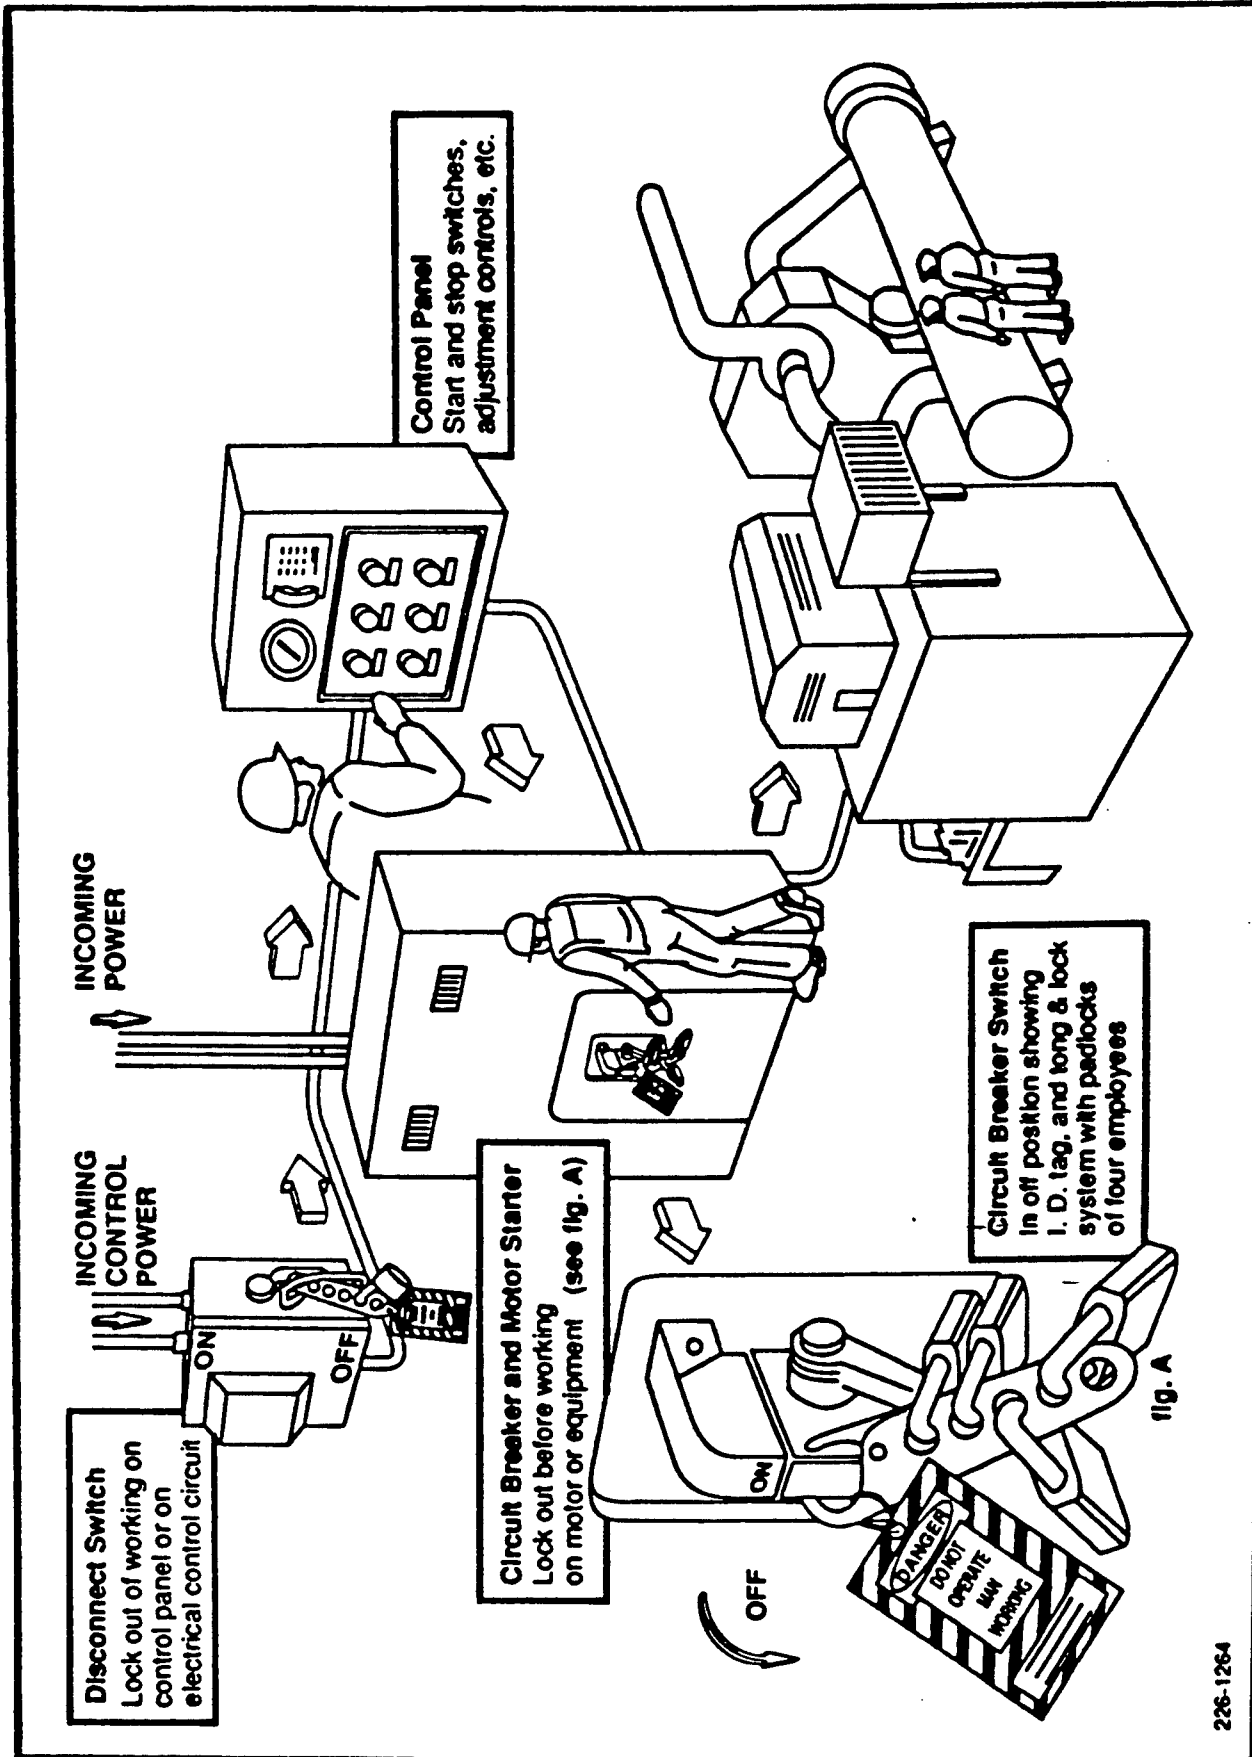
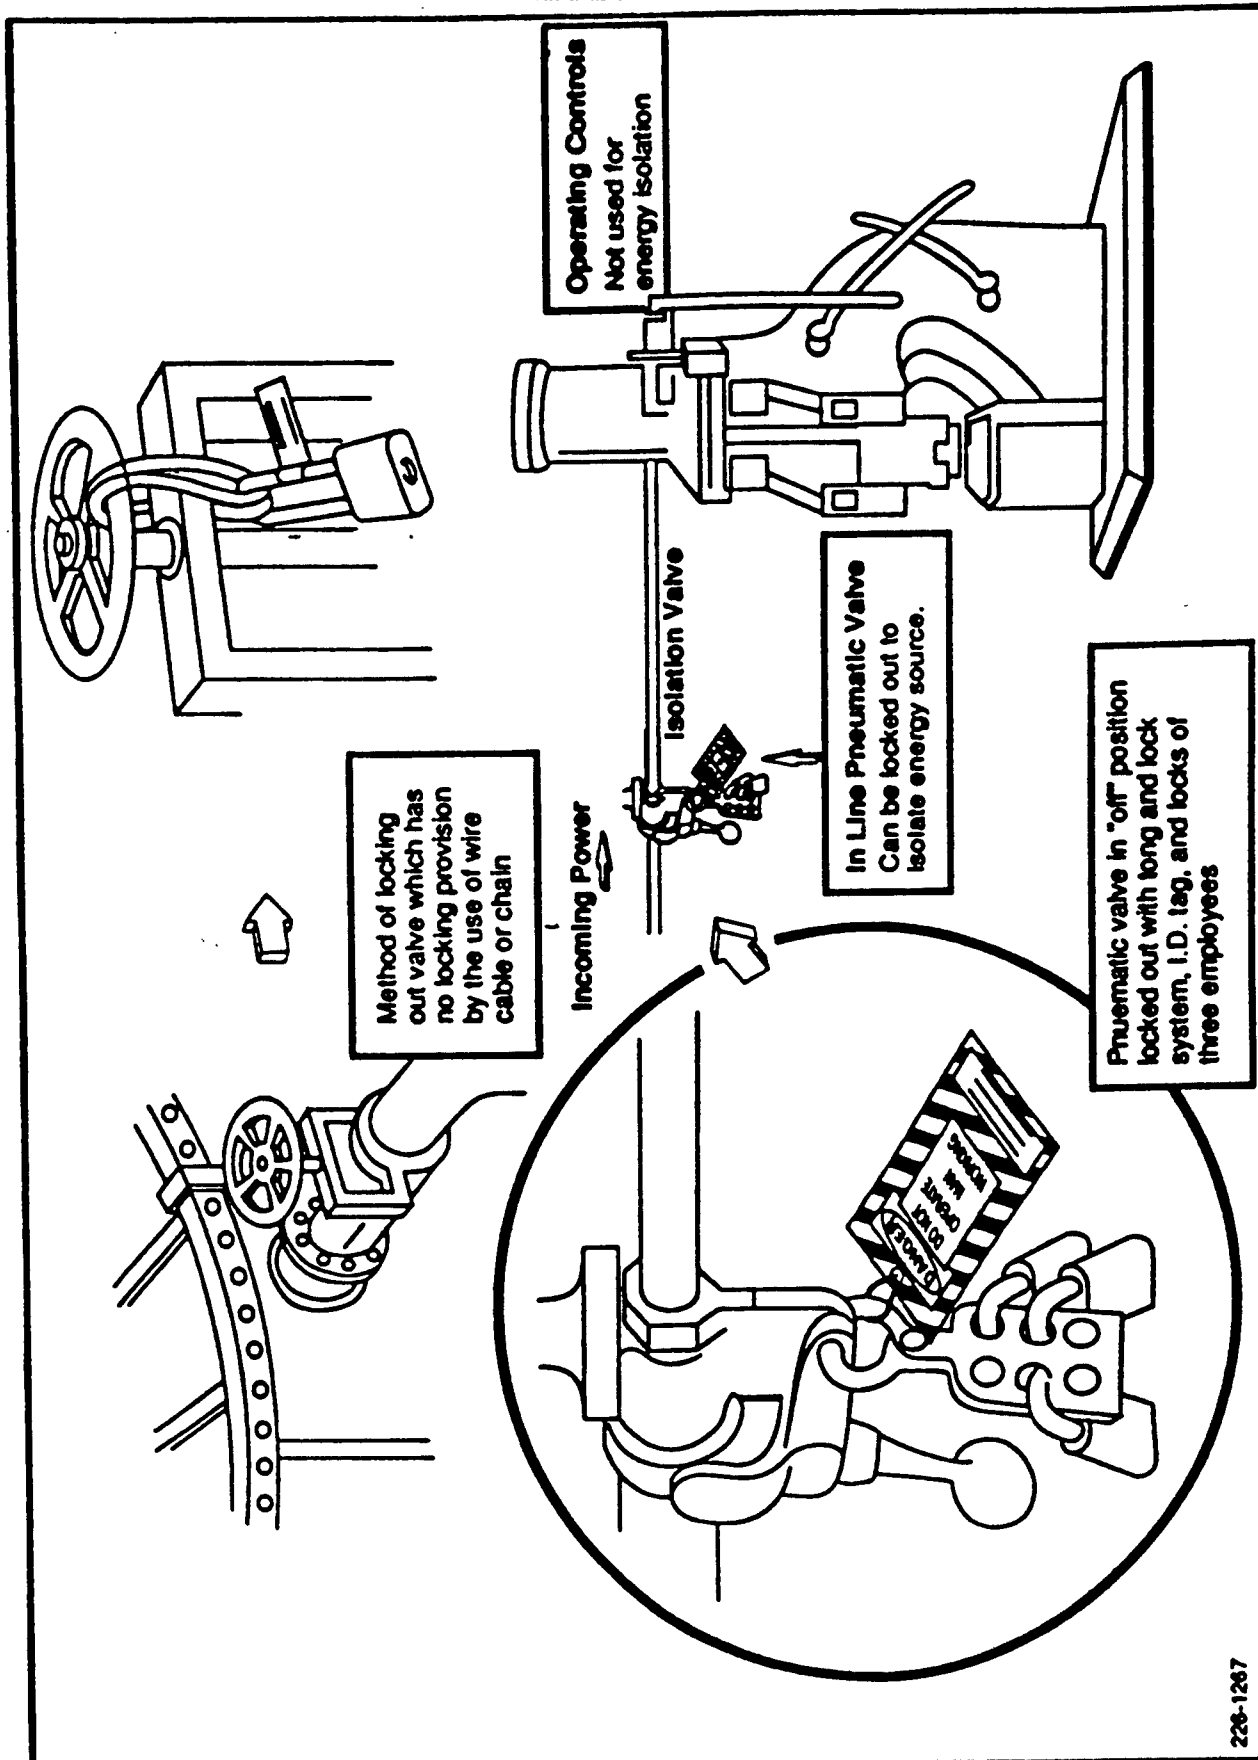

FIGURE 1
FIGURE 2
9. A lockout device will be placed on the control switch, lever, valve, or other starting or energizing control. Every person working on the equipment will place his or her own padlock on the device (see Figure 1 and Figure 2).